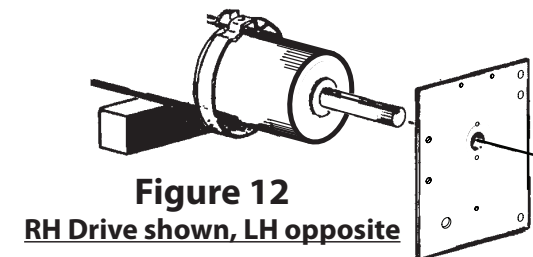

**Figure 11**
- Set barrel assembly on blocks or sawhorses so headplate brackets clear the floor. See Figures 11 and 12.
- Secure tension wheel to tension shaft as shown in Figure 11.
- If Tension Wheel is 11" in diameter or larger, slide set collar next to Tension Wheel and secure to tension shaft as shown in Figure 11.